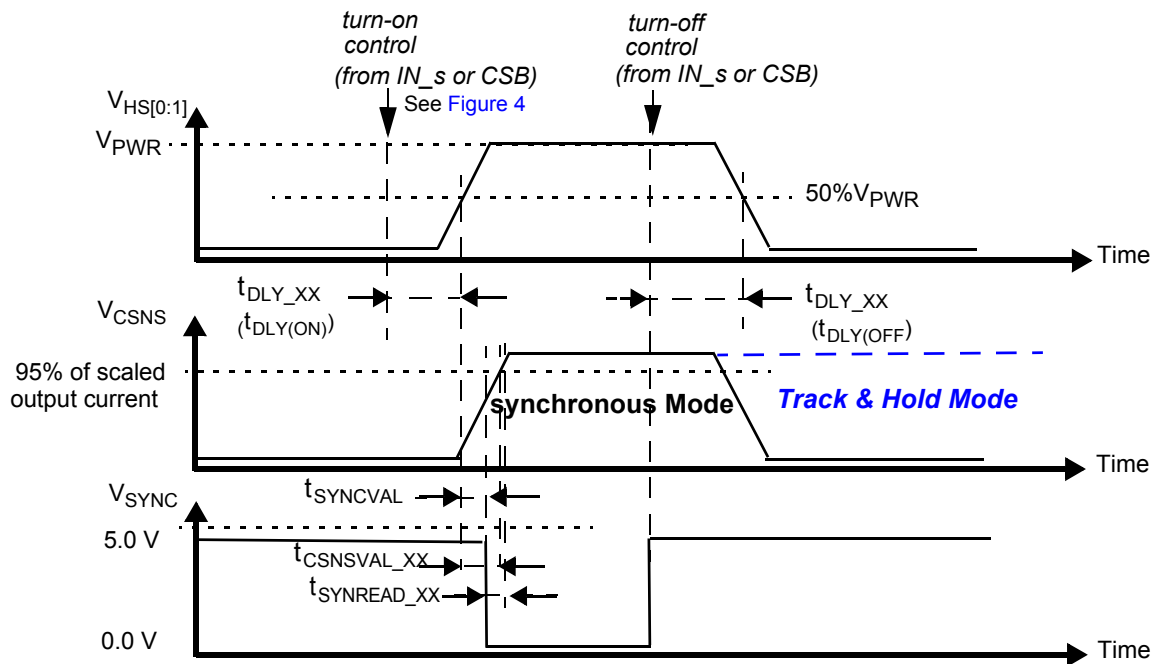

Figure 9. Synchronous & Track-and-Hold Current Sensing Modes: Associated Delay & Settling Times
- Time required to switch off the channel after detection of overtemperature (OT), overcurrent (OC), SC or UV error (time measured between start of the negative edge on the FSB pin and the falling edge on the output voltage until $V(\text{HS}[0:1]) = 50\%$ of V_{PWR}).
- Settling time (= $t_{\text{CSNSVAL_XX}}$), SYNC output signal delay (= $t_{\text{SYNCVAL_XX}}$) and Read-out delay (= $t_{\text{SYNREAD_XX}}$) are defined for a stepped load current (100 mA < I(Load) < IOCLX A FOR CSNS_RATIO_S = 1, AND 300 mA < I(Load) < IOCLX A_0 FOR CSNS_RATIO_S = 0). (see Figure 9 and Output Current Monitoring \(CSNS\))
The CS pin allows independent current monitoring of channel 0 or channel 1 up to the steady-state overcurrent threshold. It can also be used to sense the device temperature. The different functions are selected by setting bits CSNS1_en and CSNS0_en to the appropriate value (Table 23). When the CSNS pin is sensed during switch-off in the (optional) track & hold mode (see Figure 9), it outputs the scaled value of the load current as it was just before turn-Off. When several devices share the same pull-down resistor, the CSNS pins of devices the current of which is not monitored must be tri-stated. This is accomplished by setting CSNS0_en = 0 and CSNS1_en = 0 in the GCR register (Table 10). Settling time ($t_{CSNSVAL_XX}$) is defined as the time between the instant at the middle of the output voltage's rising edge ($HS[0:1] = 50\%$ of V_{PWR}), and the instant at which the voltage on the CSNS-pin has settled to $\pm 5.0\%$ of its final value. Anytime an overcurrent window is active, the CSNS pin is disabled (see Overcurrent Detection on Resistive and Inductive Loads). The current and temperature sensing functions are unavailable in Fail-safe mode and in Normal mode when operating without the V_{DD} supply voltage. In order to generate a voltage output, a pull-down resistor is required ($R(CSNS)=1.0$ k Ω typ. and $470 < R(CSNS) < 10$ k). When the current sense resistor connected to the CSNS pin is disconnected, the CSNS voltage is clamped to $V_{CL(CSNS)}$. The CSNS pin can source currents up to about 5.6 mA.
To synchronize current sensing with an external process, the SYNC signal can be connected to a digital input of an external MCU. SYNC is asserted logic low when the current sense signal is accurate and ready to be read. The current sense signal on the CSNS pin has the specified accuracy $t_{SYNCREAD_XX}$ seconds after the falling edge on the SYNC pin (Figure 9) and remains valid until a rising edge is generated. The rising edge that is generated by the SYNC pin at the turn-OFF instant (internal or external) may also be used to implement synchronization with the external MCU. Parameter $t_{SYNCVAL_XX}$ is defined as the time between the instant at the middle of the output-voltage rising edge ($HS[0:1] = 50\%$ of V_{PWR}), and the instant at which the voltage on the SYNC-pin drops below 0.4 V (V_{SOL}). The SYNC pins of different devices can be connected together to save μ -controller input channels. However, in this configuration, the CSNS function of only one device should be active at a time. Otherwise, the MCU does not determine the origin of the SYNC signal. The SYNC pin is open drain and requires an external pull-up resistor to VDD.